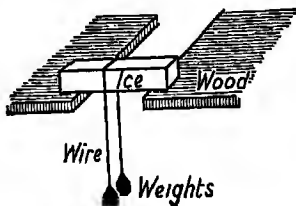

FIG. 232. Regelation.
**Expt. 273.** Support a block of ice as shown in Fig. 232. Pass over it a thin copper wire with a weight attached to each end. Note that the wire gradually passes through the block of ice but the latter is not cut in two.